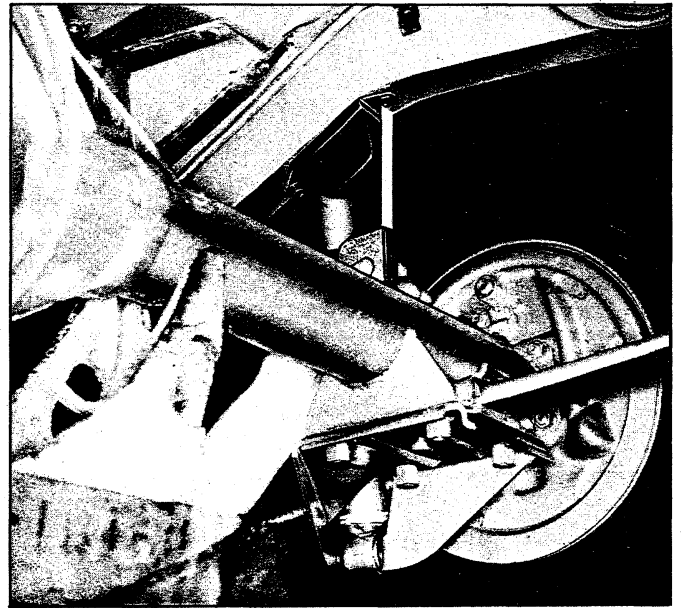

Fig. 8—Measuring Rear Riding Height (Camaro)
5. On Camaro models measure riding height as the distance from jounce bumper upper attaching bolt to top of axle housing (fig. 8).